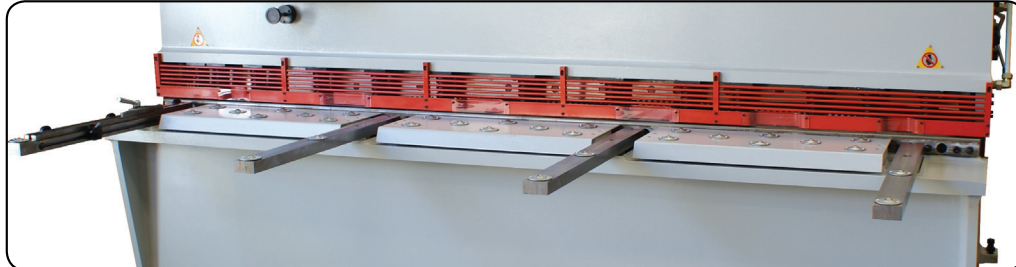

Fig. 3.2
- Bolt the support arms onto the feed table. Ensure they are level and square to the table. (Fig 3.2)